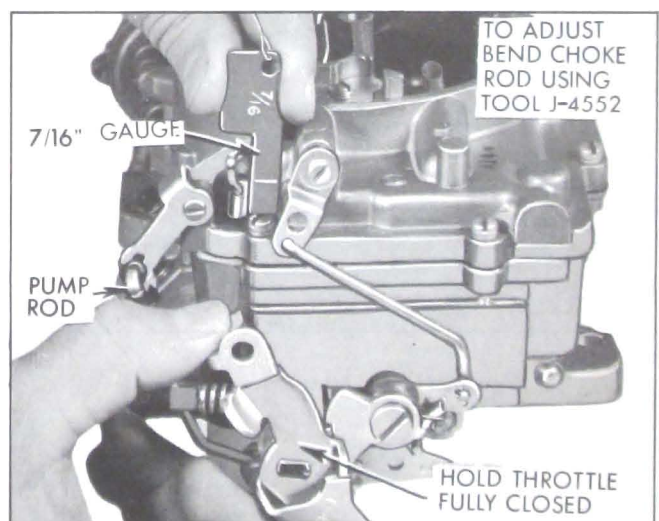

Figure 3-43—Pump Adjustment
3. Adjust Pump. Push fast idle cam aside and back out throttle stop screw until throttle valves seat in throttle bores. Measure from air horn to top of plunger shaft with scale. Bend pump rod at lower angle as required to obtain 7/16" measurement using Tool J-4552. See Figure 3-43. Turn throttle stop screw in (from fully closed throttle position) 3/4 turn which should provide an initial idle adjustment.